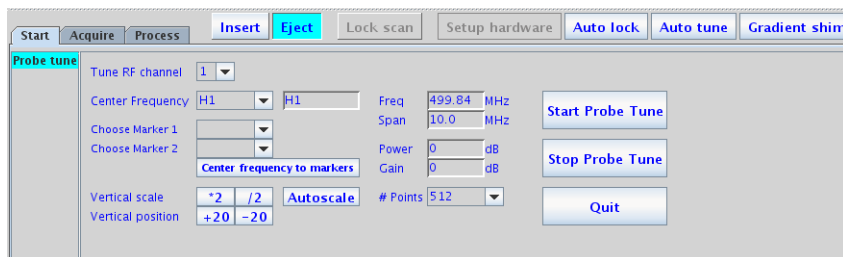

Figure 5 Manual tuning panel
Typically, probes are tuned using the Tune Interface shown in Figure 5 on page 38.
- 3 Select **Start Probe Tune** on the **Mtune** panel, see Figure 5 on page 38.
Up to two frequency markers are selectable. This is useful for tuning H1 and ^{19}F at the same time, for example with double-tuned coils like in the ATB or 4-nucleus probe families (Figure 5 on page 38).
A span of 50 MHz is typical for showing both ^1H and ^{19}F at 400 MHz, as shown in Figure 5 on page 38.